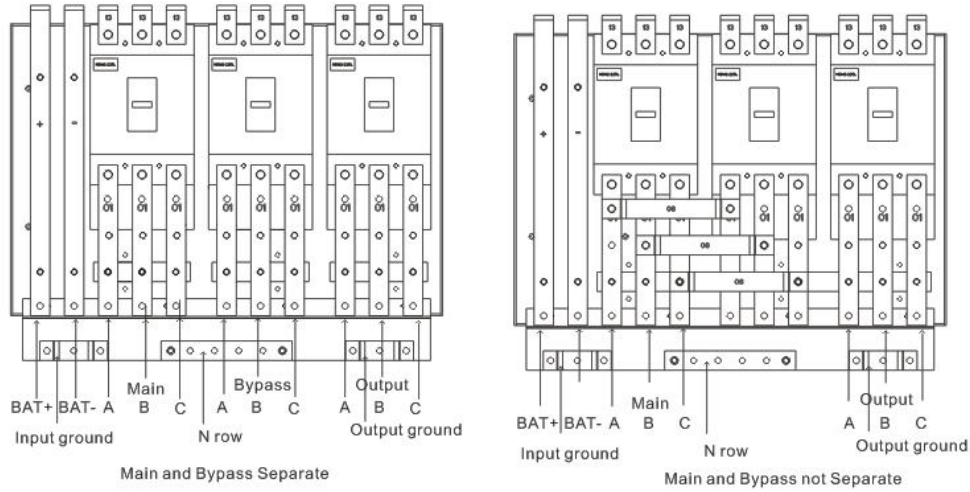

Figure 2.12 Input and Output Wiring Boards of 80KVA System
2) Connect the mains input line, battery input line, and load output line with UPS connection terminals through input and output line channels of cabinet according to phase order shown in figure 2.12.